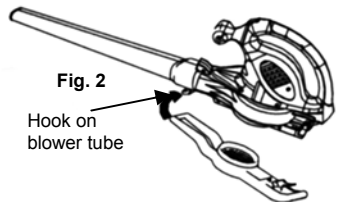

Fig. 2
3. Attach inlet cover onto hook on blower tube. (Fig. 2)